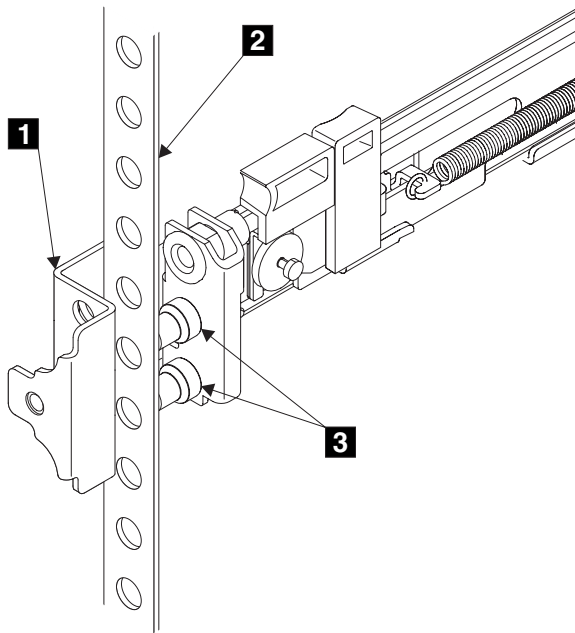

Figure 30. Installing the front end of the rail
11. Place the front end of the left rail in the rack cabinet. Align the top of the front bracket **1** (Figure 30) with the required EIA marking that is on the rack.